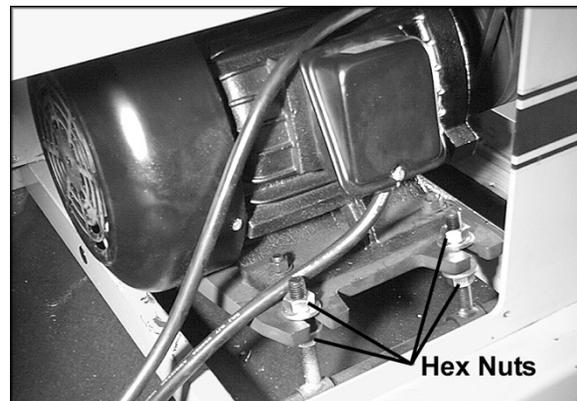

Figure 6
2. Remove lower rear cover of machine, and use the hex nuts to adjust tension. See Figure 6. Adjust motor plate up or down until correct belt tension is achieved. To lower motor plate, loosen lower nuts and tighten upper nuts. To raise motor plate, do the opposite.